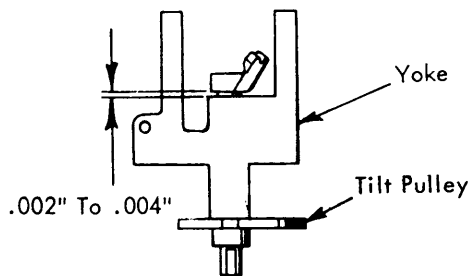

FIGURE 33. Tilt Tube End Play Adjustment
1. Tilt Tube End Play - (machines prior to gearless tilt). The tilt pulley should be adjusted up or down on the tilt tube so that .002" to .004" end play exist in the tilt tube (Fig. 33).